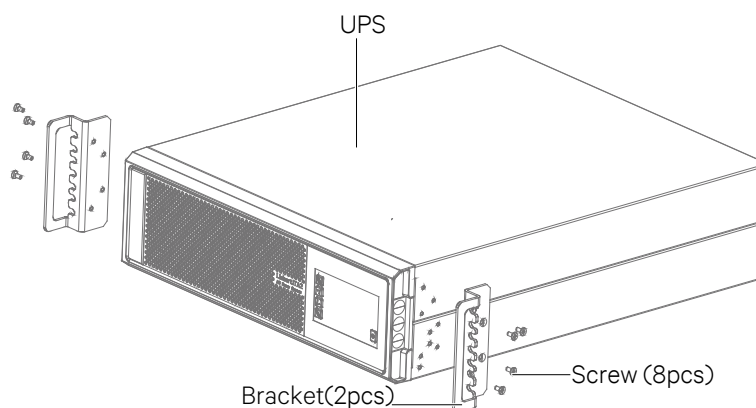

Figure 2-9 Installing brackets
1. Use eight M4 × 10 screws to fix two brackets (accessories) respectively on both sides of the UPS front panel, as shown in Figure 2-9.